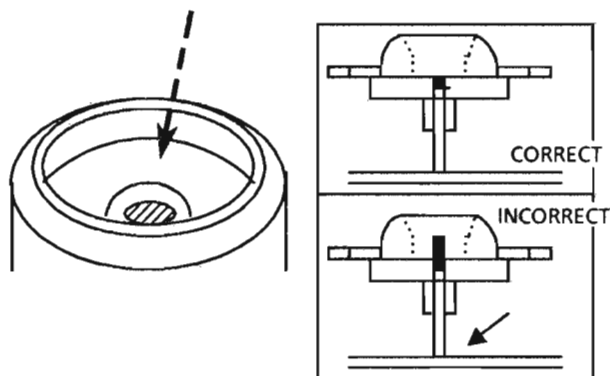

Fig 15
- (4) After inserting the turntable, bond the motor shaft and turntable together (at the section marked by an arrow in fig 15 on the left below).
- (5) Use "LOCTITE" #460 bonding agent, and apply as little as possible. Take care not to allow any excess bonding agent to get onto the turntable. Be extremely careful not to allow bonding agent to adhere to the motor bearings (the section marked by an arrow in fig 15 on the right).